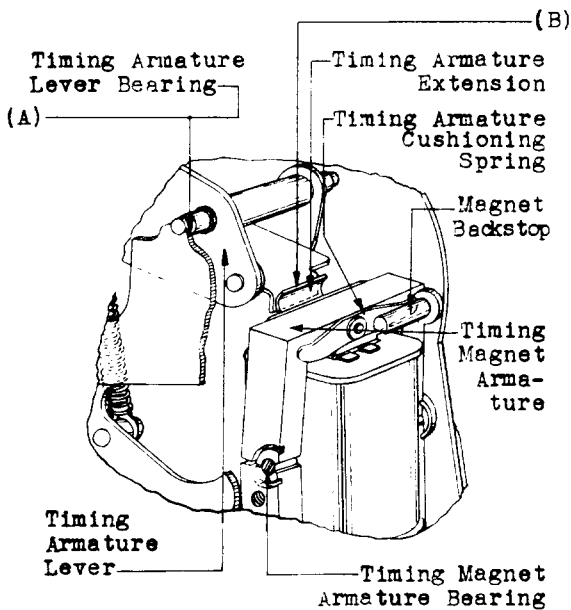

Fig. 2
Timing Armature Lever Bearings - Fig. 2 (A)
Bearing Surface of Timing Armature Extension - Fig. 2 (B)